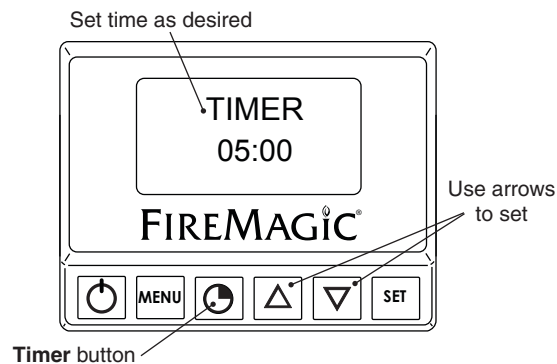

Fig. 26-4 Timer screen
1. Press the timer button. Use the arrows to set the desired amount of time (see Fig. 26-4).